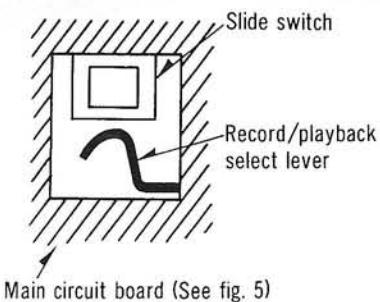

Fig. 8
* When the main circuit board is installed, be sure that the slide switch and the record/playback select lever are placed in proper position. (See fig. 8)